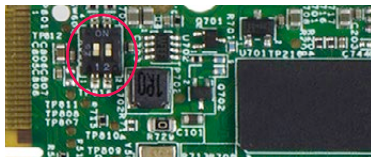
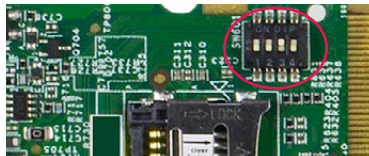

Figure 2. SW602 setting for internal boot mode
Figure 3. SW601 setting for internal boot mode
- Change SW602 to D1:ON,D2:OFF (Refer to Table 4) to enter internal boot mode, and then switch SW601 to D1:OFF, D2:OFF, D3:ON, D4:OFF (Refer to Table 5) to boot from the MicroSD card, as shown in Figure 2 and Figure 3. After the board images are programmed and the boot switches are correctly configured, the system is ready to run.